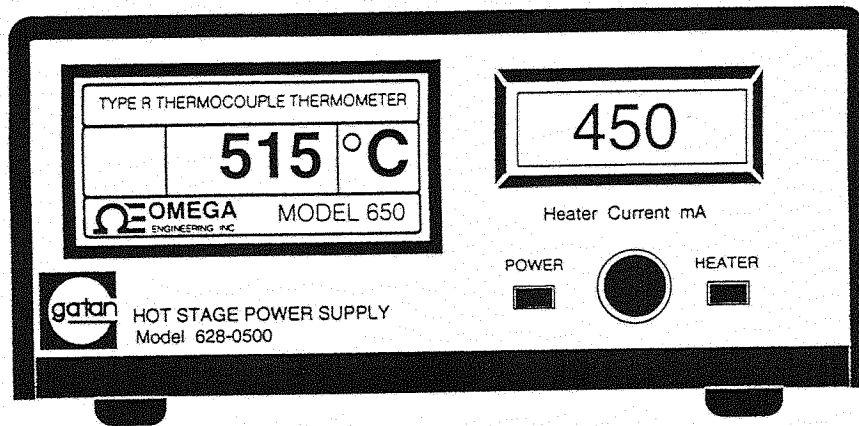

Figure 5. Model 628-0500 Temperature Controller
5. Heat Control Unit (see figures 5 and 7)
A drawing of the heat control unit is shown in Figure 5. Observe the voltage specified on the serial number label on the rear panel of the control unit before plugging into the AC power source. (The correct operating voltage is also marked on the card plugged under the fuse inside the fuse holder). When using a holder with a tantalum furnace which oxidizes rapidly when heated in air **do not turn on the heater power unless the furnace is under high vacuum** ($<10^{-5}$ Torr). The terminal identifications to the specimen rod are: